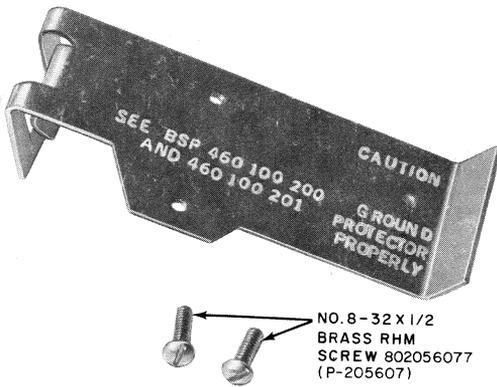
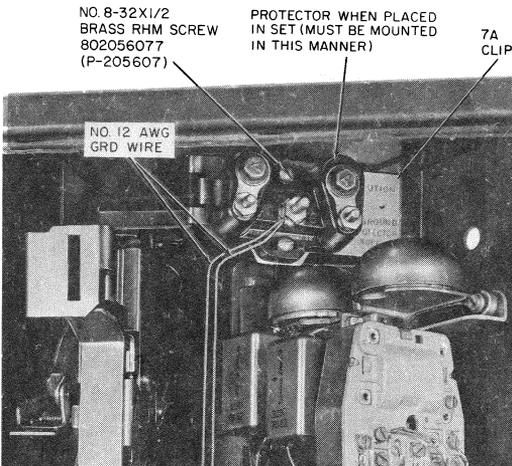

Fig. 31—7A Clip For Mounting 123A1A (MD) or 123E1A Protector and 840362024 Capacitor Board Assembly in Panel Set
Fig. 32—123A1A (MD) or 123E1A Protector Installed in Panel Set
- (2) Install the protector inside a 2A- or 2C-type set on a 7A clip (Fig. 31). Push the 7A clip, with protector, in the set so its spring loaded flange fastens on the right leg of the chute lock bracket (Fig. 32). Dress leads to avoid interference with moving parts.